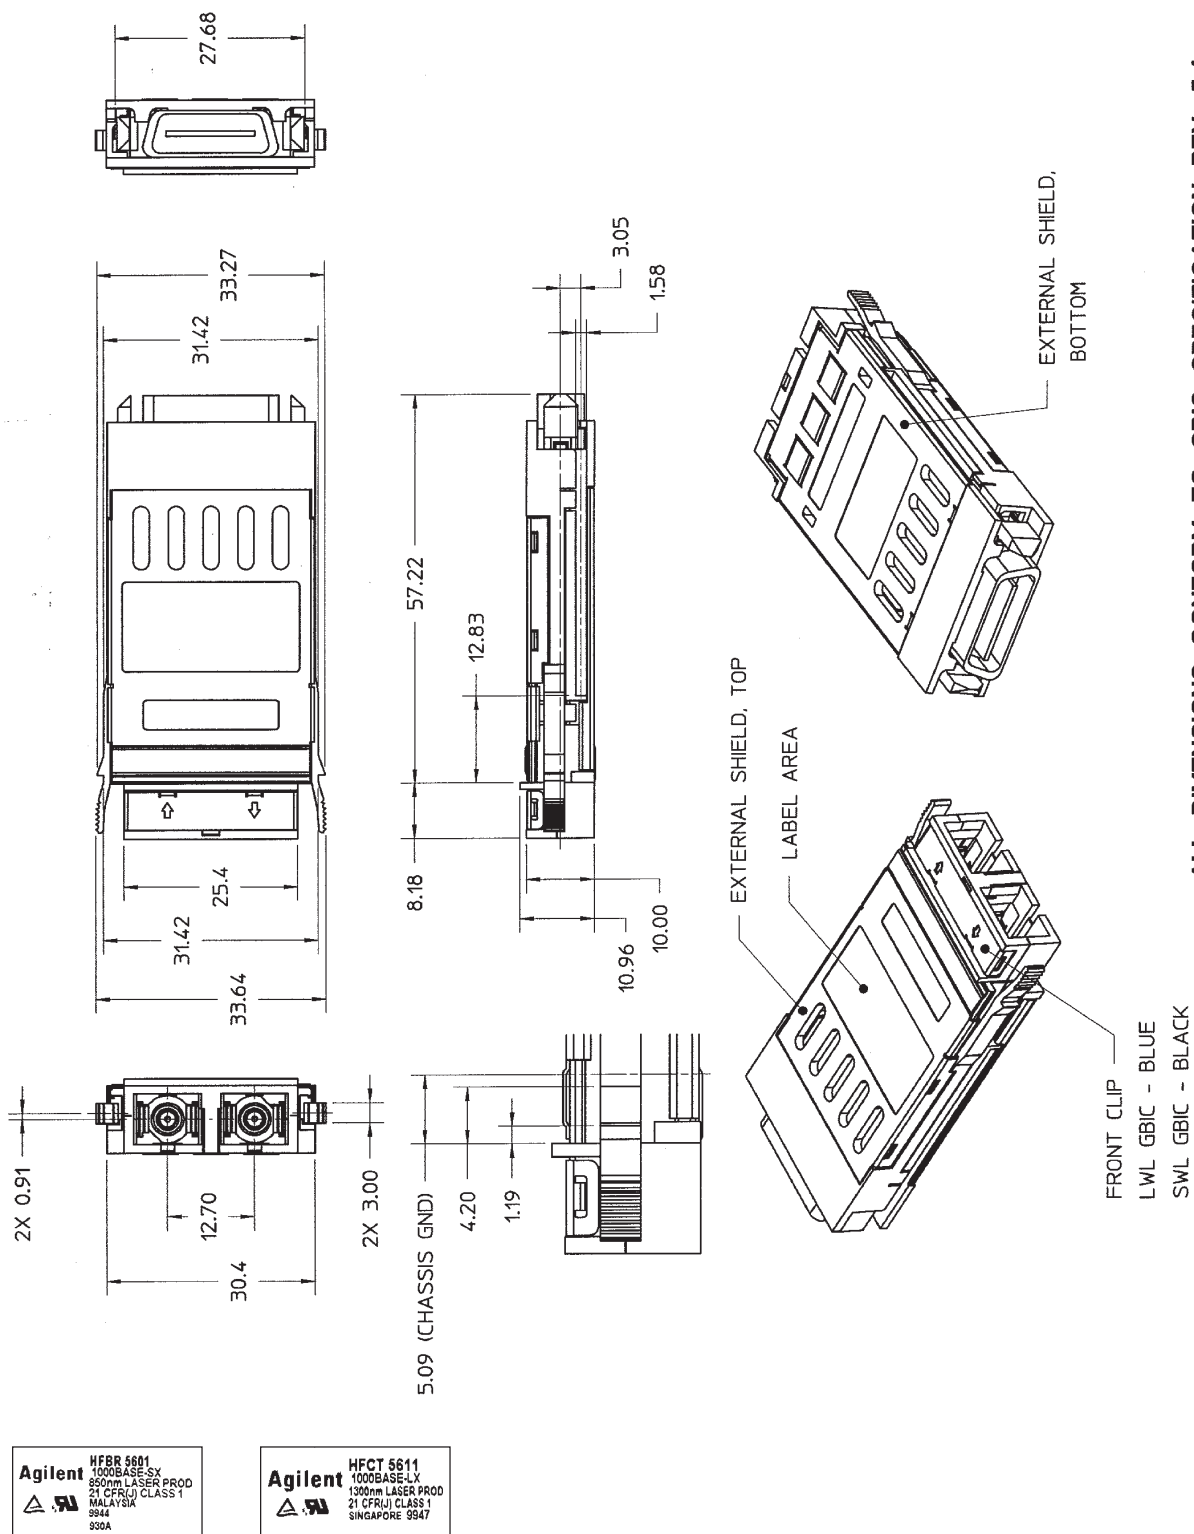

Figure 1. Outline Drawing of HFBR-5601 and HFCT-5611.
An outline drawing is shown in Figure 1. More detailed drawings are shown in Gigabit Interface Converter specification Rev. 5.4.
2. See Figure 1 for measurement point.